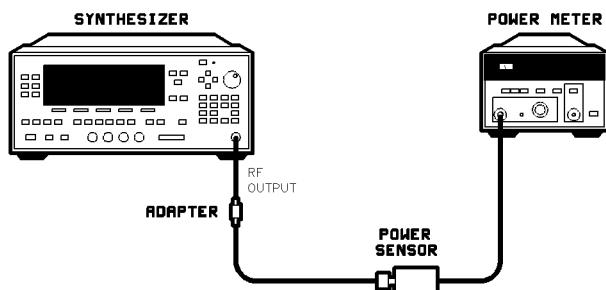

Figure 2-5. Power Accuracy Test Setup
1. Turn on the equipment shown in Figure 2-5 and let them warm up for at least one hour. Press [PRESET] on the synthesizer.
3. Connect the equipment as shown in Figure 2-5.